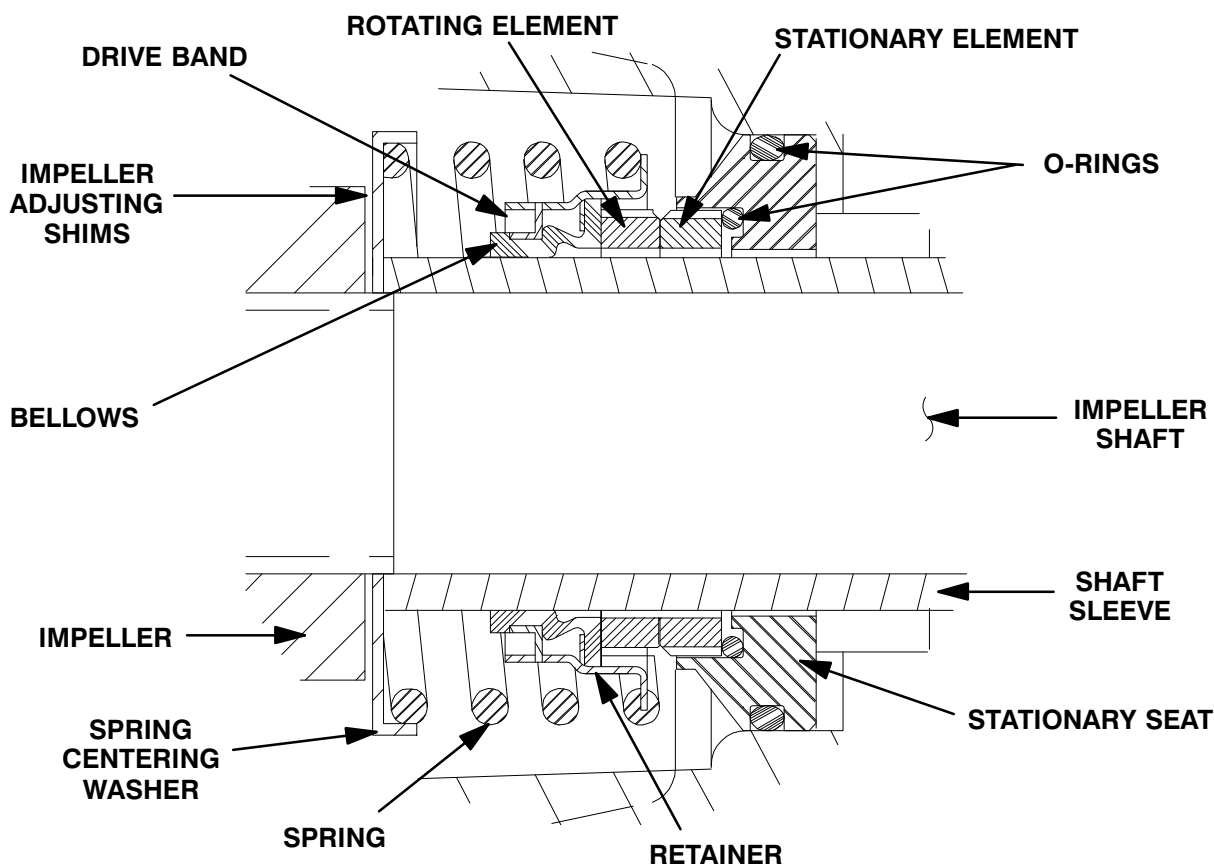

Figure 3. 46512-034 Seal Assembly
To ease installation of the seal, lubricate the O-rings and shaft sleeve (10) with water or a very **small** amount of oil, and apply a drop of light lubricating oil on the finished faces. Assemble the seal as follows, (see Figure 3).